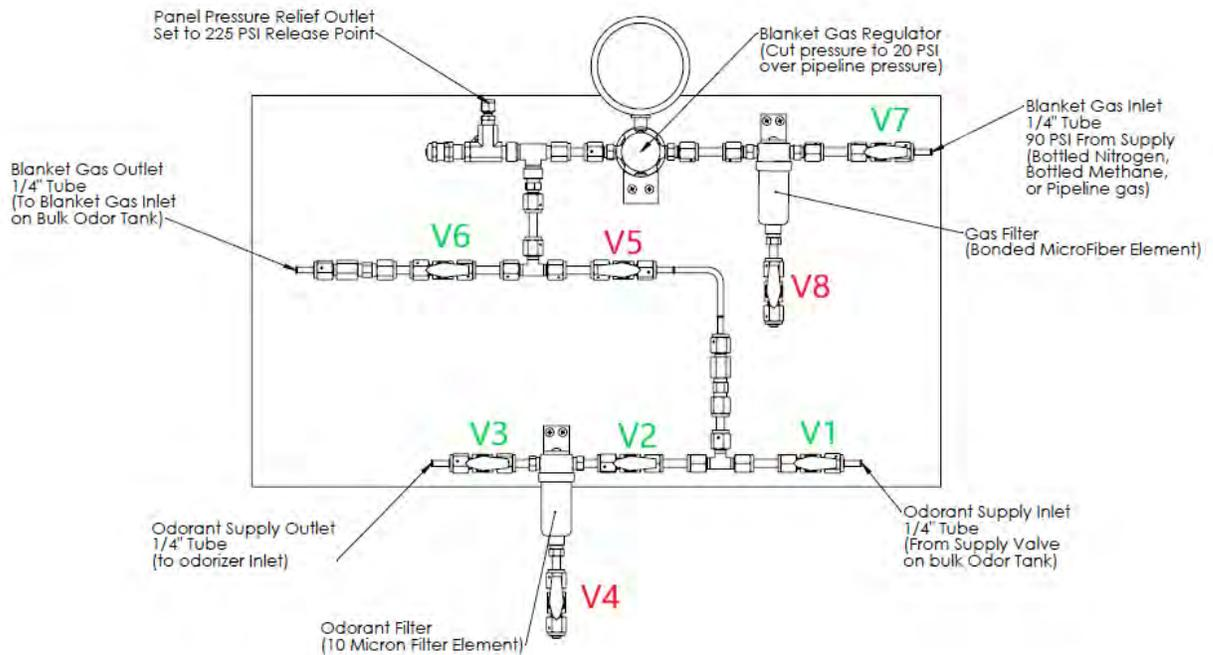

Figure 16: Injection Panel after the odorant supply has been opened.
10. If a GPL 5000 Injection Panel is installed, make sure that the valves reflect the Red/Green Open/Closed positions in Figure 16
- The injection panel is shown below in Figure 16. Open valves V1, V2, and V3 slowly. Ensure there is no leak after opening each valve. Once the valves are opened, the result should look similar to Figure 16, where Red = Closed and Green = Open.